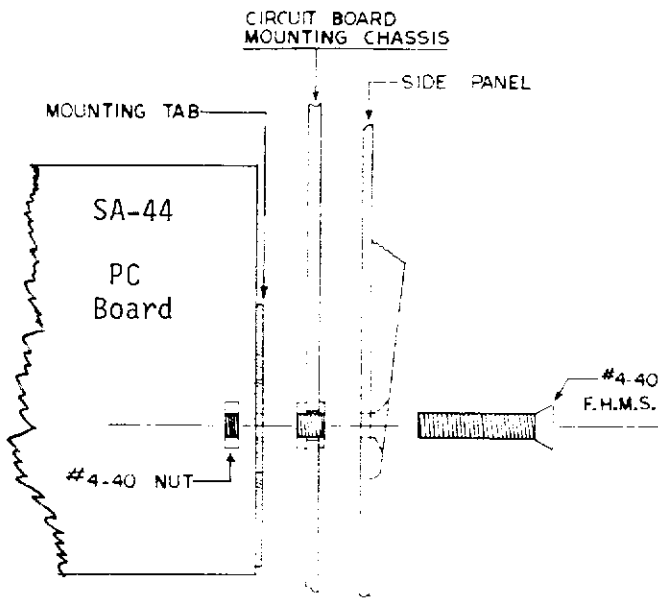

Figure 2-4. SA-44 Mounting
10. Use #4-40 nuts on the LOWER two (2) mounting screws to secure SA-44 in place. See Figure 2-4.
13. Install receiver board in normal operating position on circuit-board chassis. Secure board with the five (5) screws removed in step 5 above.